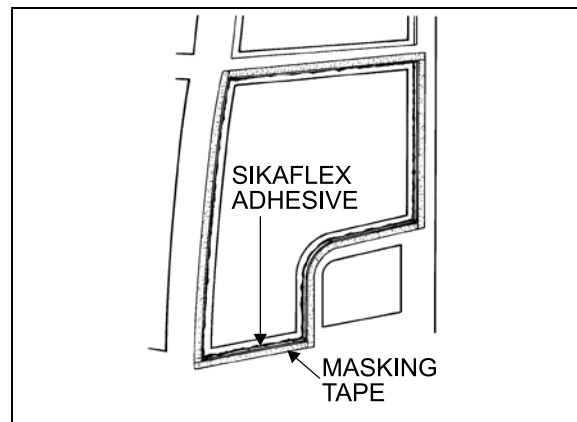

FIGURE 46: ADHESIVE-MOUNTED WINDOW 18081
6. Confirm that both latches are in the closed (latched) position. The upper edge of the latch opening must be aligned with upper edge of the sash opening (Figure 46)